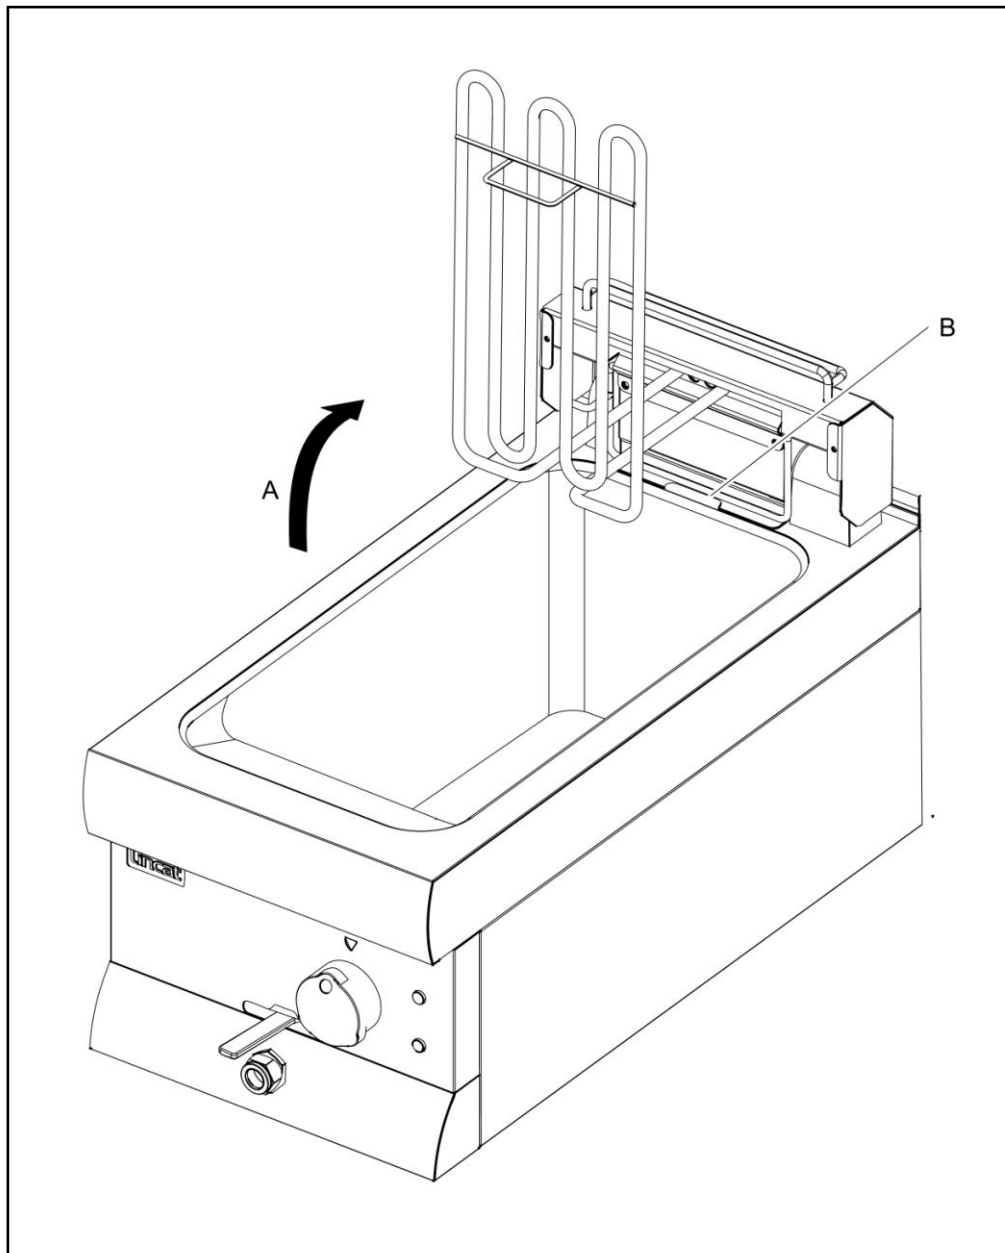

Fig 3
Lift the elements up and back Fig 3 (A) until the stay engages behind the bracket (B).